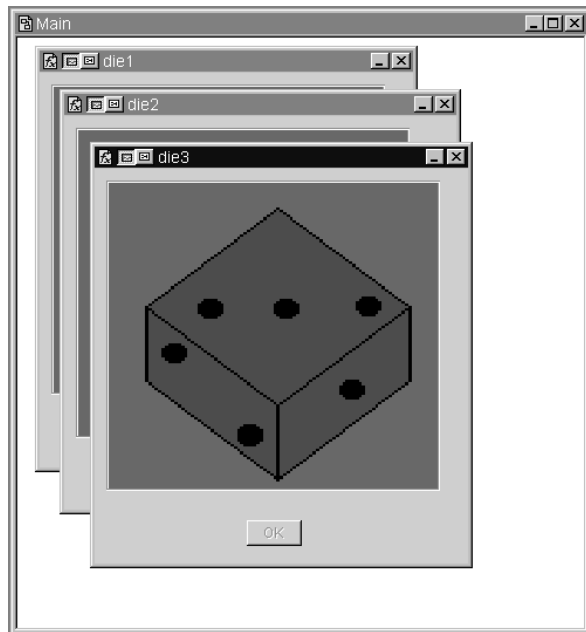

Figure 238 Early Stage in the Dice Program
- 7 Create two more UserFunctions by selecting **Clone** in the **die1** object menu. The new UserFunctions appear automatically as **die2** and **die3**. Change the picture objects to **die2.gif** and **die3.gif** respectively. Check all the settings of the new functions to make sure they match **die1** except for the names and bitmaps. The program should look like Figure 238. Iconize the function windows.